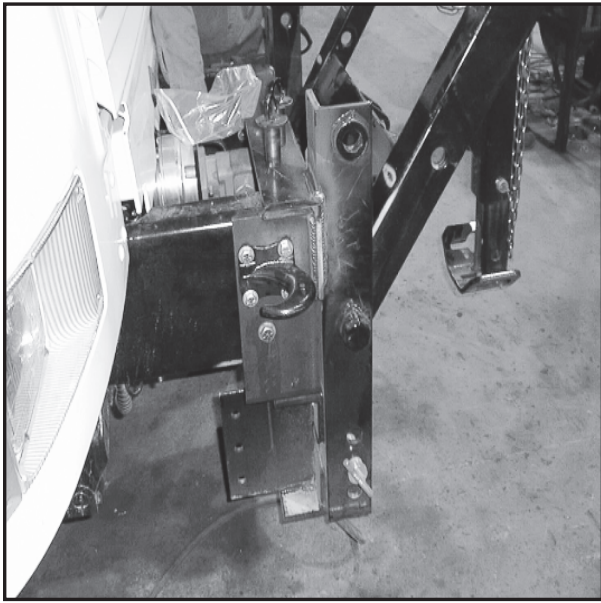

Fig. 3
10. Re-install hitch assembly and tow hooks. Tighten all bolts to specifications. **(Fig. 3)**